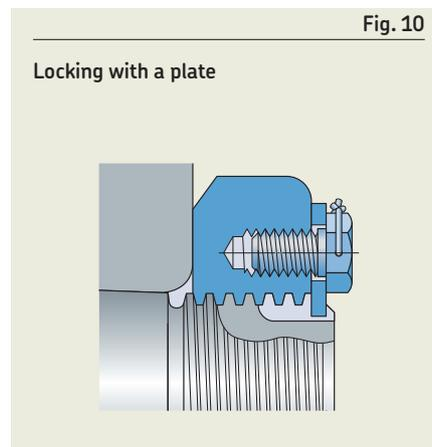

Fig. 10
- Locking plates (fig. 4, page 1093) engage a keyway in a shaft or adapter sleeve and are attached to the side face of the nut by two bolts secured with locking wire. A locking plate consists of a plate, two hexagonal head bolts with drilled heads and lock wire to secure them (fig. 10).